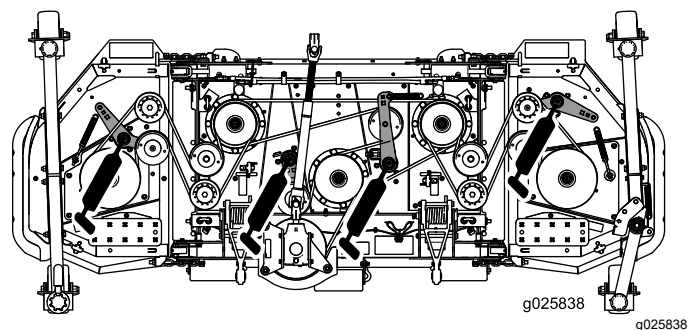

Figure 19
- Idler arm pivots (4) (Figure 19)